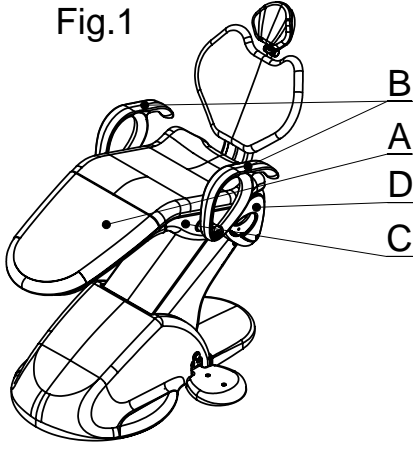

Fig.2
- 2) Disassemble the cover "E", paying special attention to the safety micros "G" inside it, making it rotate around the bracket "F" (Fig.2).